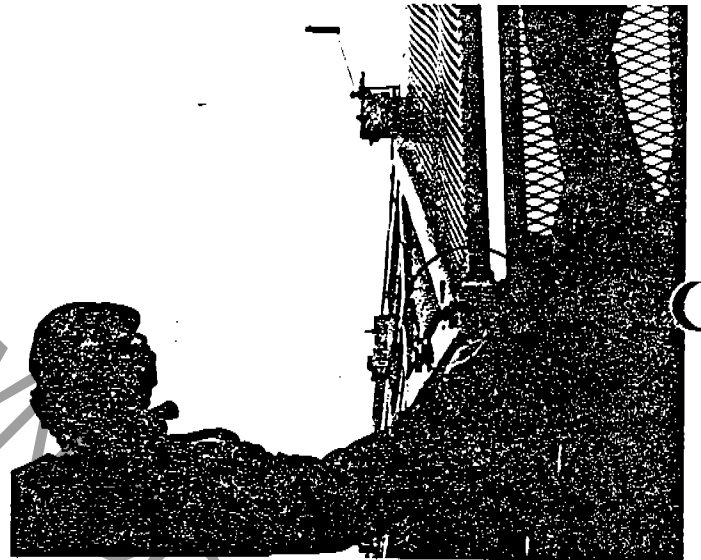

Fig. 18
- f. Working from the stepladder, *snap key* all fence posts in place. Insert the rear keys first. (Fig. 18)